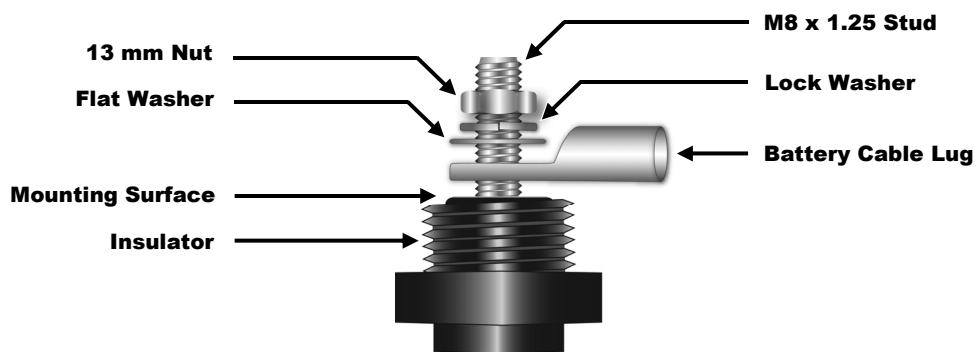

Figure 8 Required Order of Battery Cable Hardware
2. Do not install hardware in a different order from Figure 8. The battery cable lug should be the first item installed on the stud. It should make solid contact with the mounting surface.